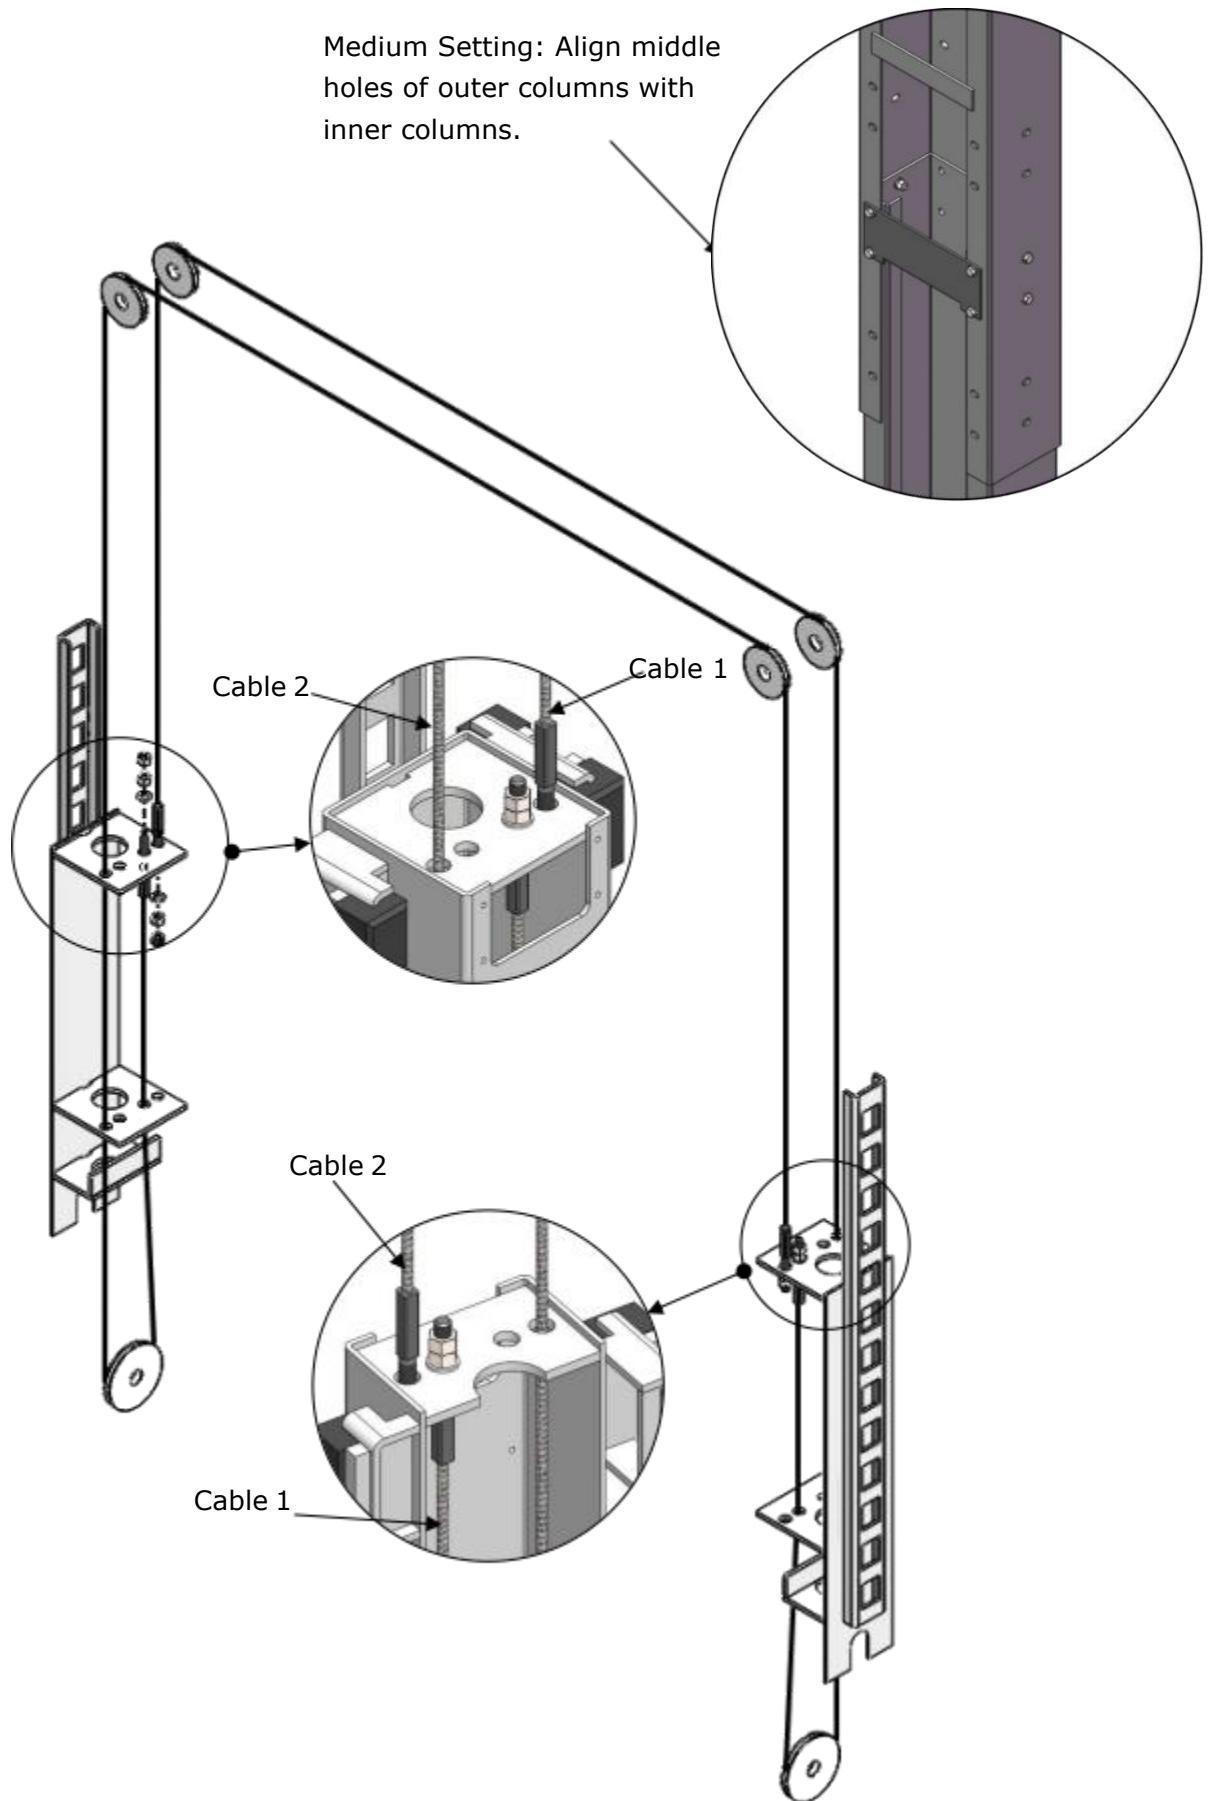

Fig. 30
2. Sync cable connection of medium setting installation. (**See Fig. 30**)